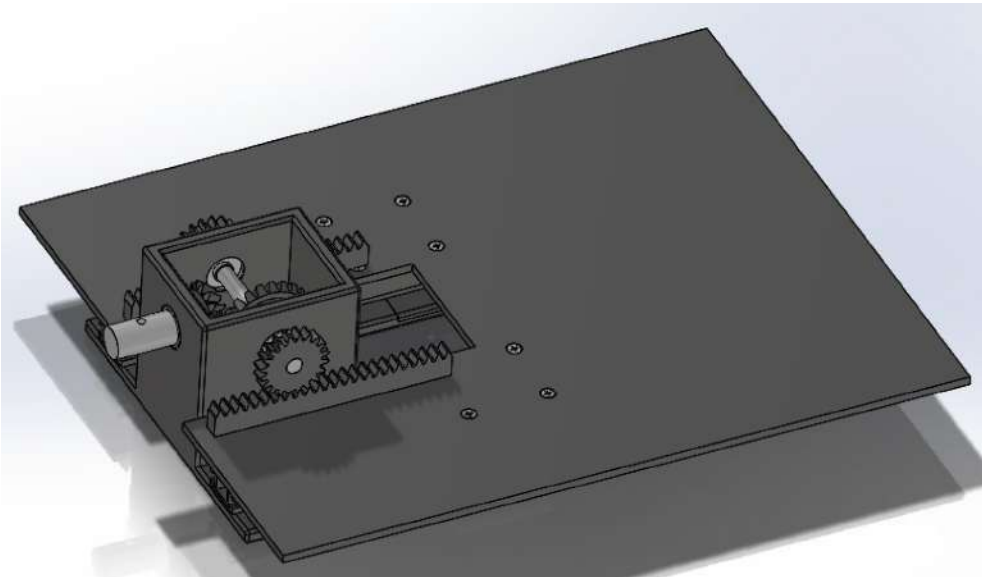

Figure 19: Adding pinion gears to assembly
9. Slide pinion gears onto both sides of the crosspin as shown in figure 19.